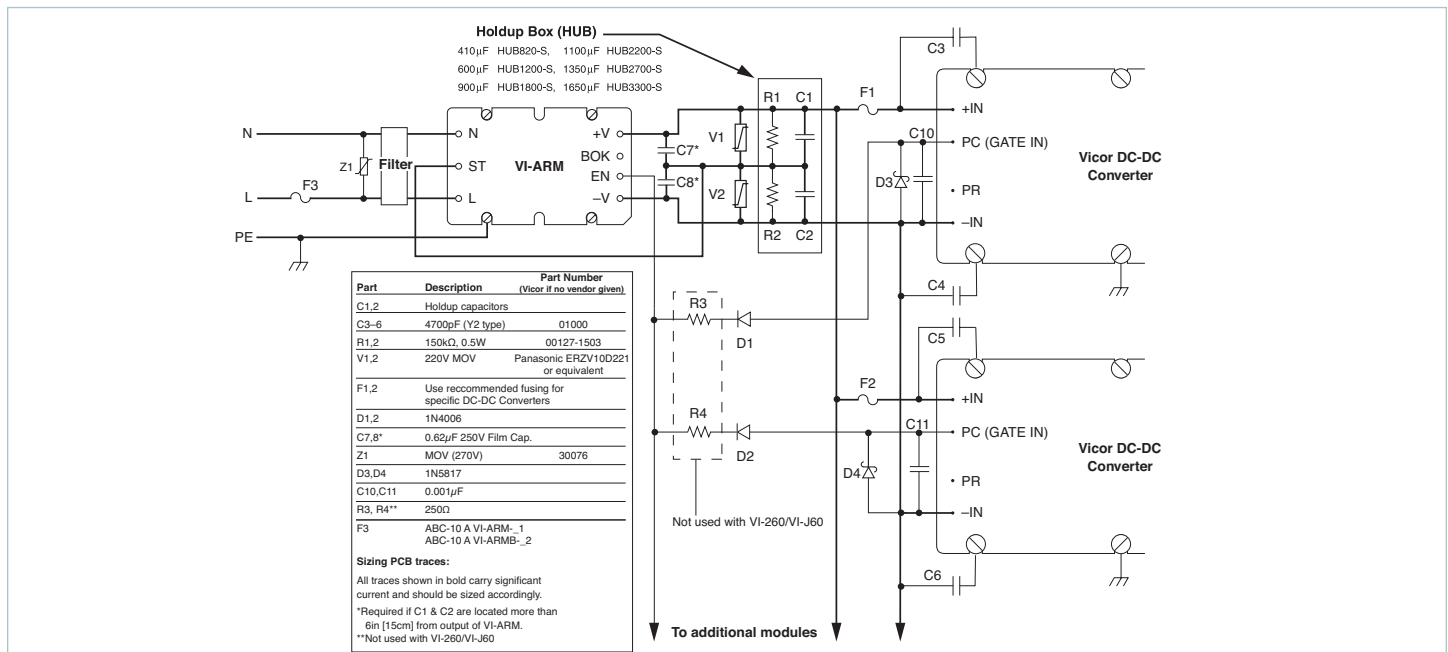

Figure 7.3 — Typical ARM application
Strap (ST) Pin: In addition to input and output power pin connections, it is necessary to connect the Strap pin to the junction of the series hold-up capacitors (C1, C2, Figure 7.3) for proper (autoranging) operation. Varistors across the capacitors provide input transient protection. The bleeder resistors (R1, R2, Figure 7.3) discharge the hold-up capacitors when power is switched off.
It should be noted that the series combination (C1, C2, Figure 7.3) requires each capacitor to be twice the calculated value, but the required voltage rating is reduced to 200V.